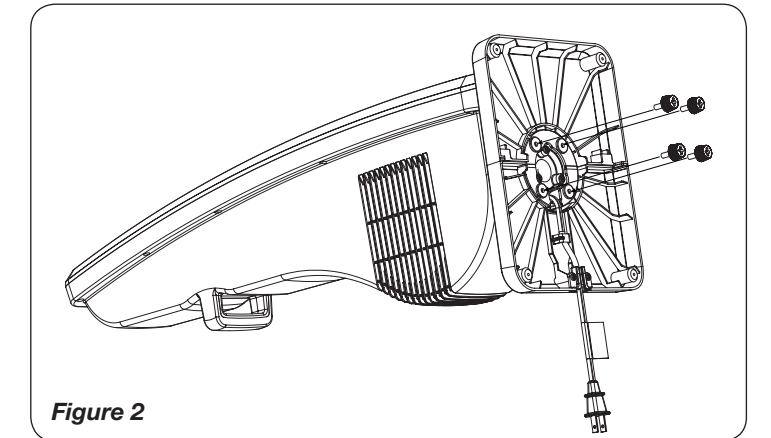

Figure 2
- Thread the Power Supply Cord through the large hole in the Base Assembly. Attach Base to bottom of the Heater. **NOTE:** The Cord Channel on the bottom of the Base should be towards the back of the heater in Figure 2.
- Using (4) thumb screws (supplied), fasten the Base to the Heater as shown in Figure 2.